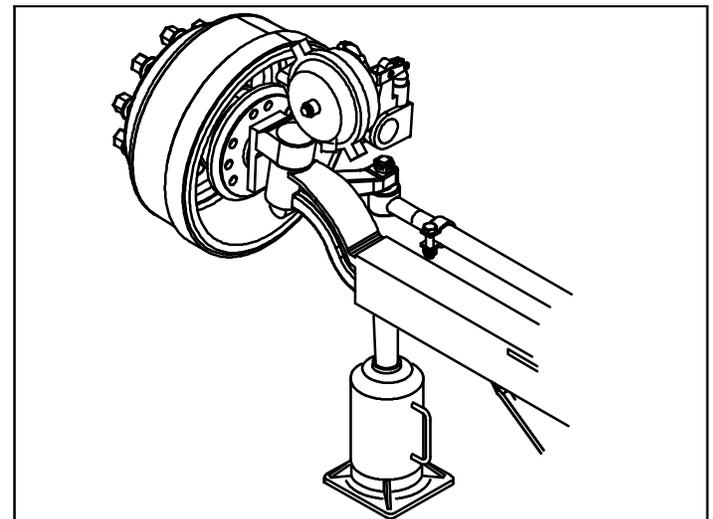

FIGURE 74. Tag axle jacking points
3. Place the jack under the rear pipe strut jack pad and raise coach (Figure 74).